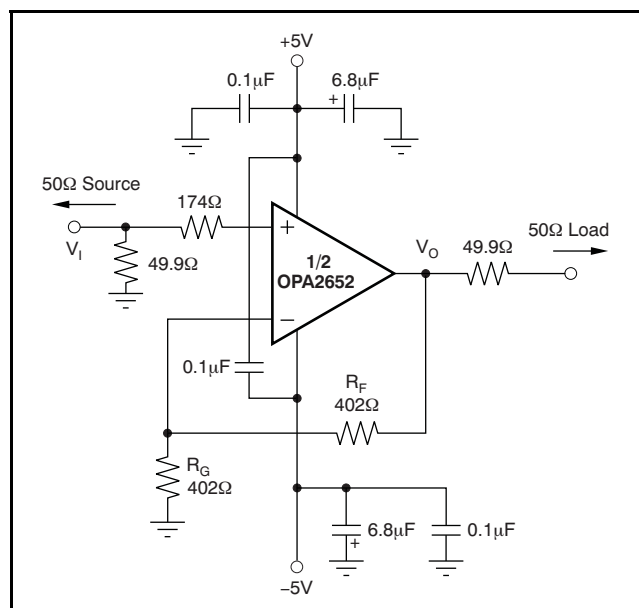
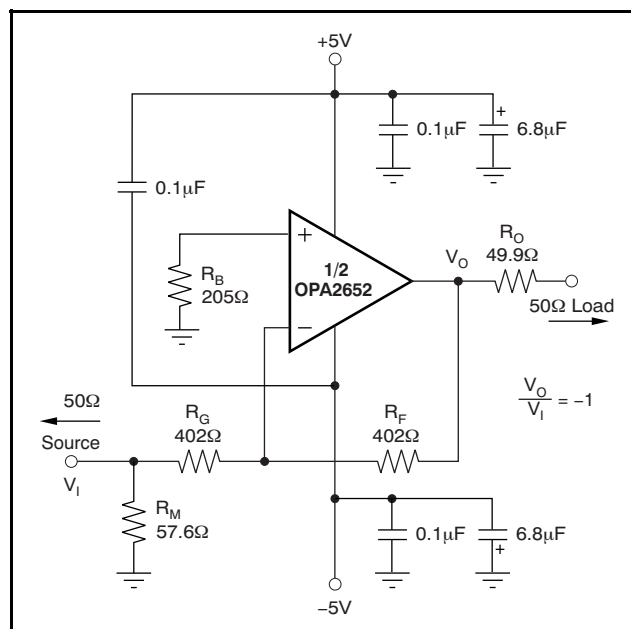

Figure 28. DC-Coupled, $G = +2$, Bipolar Supply, Specification and Test Circuit
Figure 29. DC-Coupled, $G = -1$, Bipolar Supply, Specification and Test Circuit
At $T_A = +25^\circ C$, $G = +2$, $R_F = 402\Omega$, and $R_L = 100\Omega$, unless otherwise noted. See Figure 28 and Figure 29 for AC performance only.
At $T_A = +25^\circ C$, $G = +2$, $R_F = 402\Omega$, and $R_L = 100\Omega$, unless otherwise noted. See Figure 28 and Figure 29.
Figure 28 shows the DC-coupled, gain of +2, dual power-supply circuit configuration used as the basis of the $\pm 5\text{V}$ specifications and typical characteristics. This configuration is for one channel. The other channel is connected similarly. For test purposes, the input impedance is set to 50Ω with a resistor to ground and the output impedance is set to 50Ω with a series output resistor.
Voltage swings reported in the specifications are taken directly at the input and output pins, while output powers (dBm) are at the matched 50Ω load. For the circuit of Figure 28, the total effective load will be $100\Omega \parallel 804\Omega$. Two optional components are included in Figure 28.
Figure 29 shows the DC-coupled, gain of -1 , bipolar supply circuit configuration that is the basis of the specifications and typical characteristics at $G = -1$. The input impedance matching resistor (57.6Ω) used for testing gives a 50Ω input load. A resistor (205Ω) connects the noninverting input to ground. This configuration provides the DC source resistance matching to cancel outputs errors arising from input bias current.
A good rule of thumb is to target the parallel combination of R_F and R_G (see Figure 28) to be less than approximately 300Ω. The combined impedance $R_F \parallel R_G$ interacts with the inverting input capacitance, placing an additional pole in the feedback network, and thus a zero in the forward response. Assuming a 2pF total parasitic on the inverting node, holding $R_F \parallel R_G < 300\Omega$ keeps this pole above 250MHz. By itself, this constraint implies that the feedback resistor R_F can increase to several kΩ at high gains. This increase is acceptable as long as the pole formed by R_F and any parasitic capacitance appearing in parallel is kept out of the frequency range of interest.
Voltage feedback op amps exhibit decreasing closed-loop bandwidth as the signal gain is increased. In theory, this relationship is described by the Gain Bandwidth Product (GBP) shown in the specifications. Ideally, dividing GBP by the noninverting signal gain (also called the Noise Gain, or NG) predicts the closed-loop bandwidth. In practice, this prediction only holds true when the phase margin approaches 90°, as it does in high gain configurations. At low gains (increased feedback factor), most amplifiers exhibit a wider bandwidth and lower phase margin. The OPA2652 is compensated to give a flat response in a noninverting gain of 1 (see Figure 28). This configuration results in a typical gain of +1 bandwidth of 700MHz, far exceeding that predicted by dividing the 200MHz GBP by NG = 1. Increasing the gain
Because the OPA2652 is a general-purpose, wideband voltage feedback op amp, all of the familiar op amp application circuits are available to the designer. Inverting operation is one of the more common requirements and offers several performance benefits. Figure 29 shows a typical inverting configuration.
In the inverting configuration, three key design consideration must be noted. First, the gain resistor (R_G) becomes part of the signal channel input impedance. If input impedance matching is desired (which is beneficial whenever the signal is coupled through a cable, twisted pair, long PCB trace or other transmission line conductor), R_G may be set equal to the required termination value and R_F adjusted to give the desired gain. This approach is the simplest, and results in optimum bandwidth and noise performance. However, at low inverting gains, the resulting feedback resistor value can present a significant load to the amplifier output. For an inverting gain of –1, setting R_G to 50Ω for input matching eliminates the need for R_M but requires a 50Ω feedback resistor. This configuration has the interesting advantage that the noise gain becomes equal to 2 for a 50Ω source impedance—the same as the noninverting circuits considered above. However, the amplifier output now sees the 50Ω feedback resistor in parallel with the external load. In general, the feedback resistor should be limited to the 200Ω to 1.5kΩ range. In this case, it is preferable to increase both the R_F and R_G values as shown in Figure 29, and then achieve the input matching impedance with a third resistor (R_M) to ground. The total input impedance becomes the parallel combination of R_G and R_M .
The second major consideration, touched on in the previous paragraph, is that the signal source impedance becomes part of the noise gain equation and influences the bandwidth. For the example in Figure 29, the R_M value combines in parallel with the external 50Ω source impedance, yielding an effective driving impedance of $50\Omega \parallel 57.6\Omega = 26.8\Omega$. This impedance is added in series with R_G for calculating the noise gain (NG). The resulting NG is 1.94 for Figure 29 (an ideal source would cause NG = 2.00).
error, as a result of the input bias currents, is reduced to (Input Offset Current) • R_F . If the 50Ω source impedance is DC-coupled in Figure 29, the total resistance to ground on the inverting input will be 429Ω . Combining this in parallel with the feedback resistor gives 208Ω , which is close to the $R_B = 205\Omega$ used in Figure 29. To reduce the additional high-frequency noise introduced by this resistor, it is sometimes bypassed with a capacitor. As long as $R_B < 300\Omega$, the capacitor is not required since its total noise contribution is much less than that of the op amp input noise voltage.
The OPA2652 provides good distortion performance into a 100Ω load on $\pm 5V$ supplies. Increasing the load impedance improves distortion directly. Remember that the total load includes the feedback network; in the noninverting configuration (Figure 28), this is sum of $R_F + R_G$, while in the inverting configuration, it is only R_F . Also, providing an additional supply decoupling capacitor ($0.1\mu F$) between the supply pins (for bipolar operation) improves the 2nd-order distortion slightly (3dB to 6dB).
Evaluating these two equations for the OPA2652 circuit and component values shown in Figure 28 gives a total output spot noise voltage of $17\text{nV}/\sqrt{\text{Hz}}$ and a total equivalent input spot noise voltage of $8.4\text{nV}/\sqrt{\text{Hz}}$. This noise includes the noise added by the bias current cancellation resistor (205Ω) on the noninverting input. This total input-referred spot noise voltage is only slightly higher than the $8\text{nV}/\sqrt{\text{Hz}}$ specification for the op amp voltage noise alone. This result will be the case as long as the impedances appearing at each op amp input are limited to the previously recommend maximum value of 300Ω . Keeping both $(R_F \parallel R_G)$ and the noninverting input source impedance less than 300Ω satisfies both noise and frequency response flatness considerations. Since the resistor-induced noise is relatively negligible, additional capacitive decoupling across the bias current cancellation resistor (R_B) for the inverting op amp configuration of Figure 29 is not required.
The balanced input stage of a wideband voltage feedback op amp allows good output DC accuracy in a wide variety of applications. Although the high-speed input stage does require relatively high input bias current (typically $4\mu\text{A}$ out of each input terminal), the close matching between them may be used to significantly reduce the output DC error caused by this current. This reduction is done by matching the DC source resistances appearing at the two inputs. This matching reduces the output DC error resulting from the input bias currents to the offset current times the feedback resistor. Evaluating the configuration of Figure 28, using worst-case $+25^\circ\text{C}$ input offset voltage and current specifications, gives a worst-case output offset voltage equal to:
As an example, compute the maximum T_J using an OPA2652E (SOT23-8 package) in the circuit of Figure 28 operating at the maximum specified ambient temperature of +85°C and with both outputs driving 2.5V_{DC} into a grounded 100Ω load.